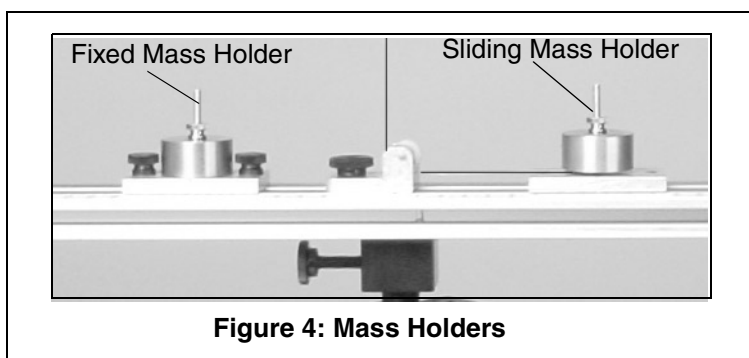

Figure 4: Mass Holders
14. Add a mass over the cable on the sliding mass holder; then tightly screw on the knurled nut to hold the mass in place (Figure 4).